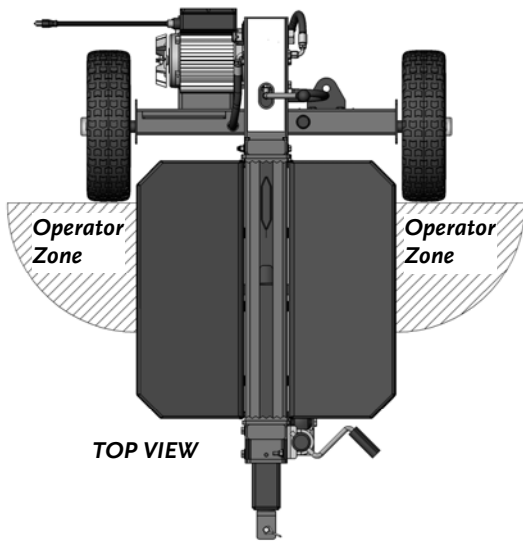

Figure 21
- When operating the Log Splitter, make sure you are standing in the safe operating area (OPERATOR ZONE) as shown in **Figure 21**. You must stay in the safe operating area at all times when the splitting wedge is in motion (whether extending or retracting). Never place any part of your body into a position that causes an unsafe operating condition.